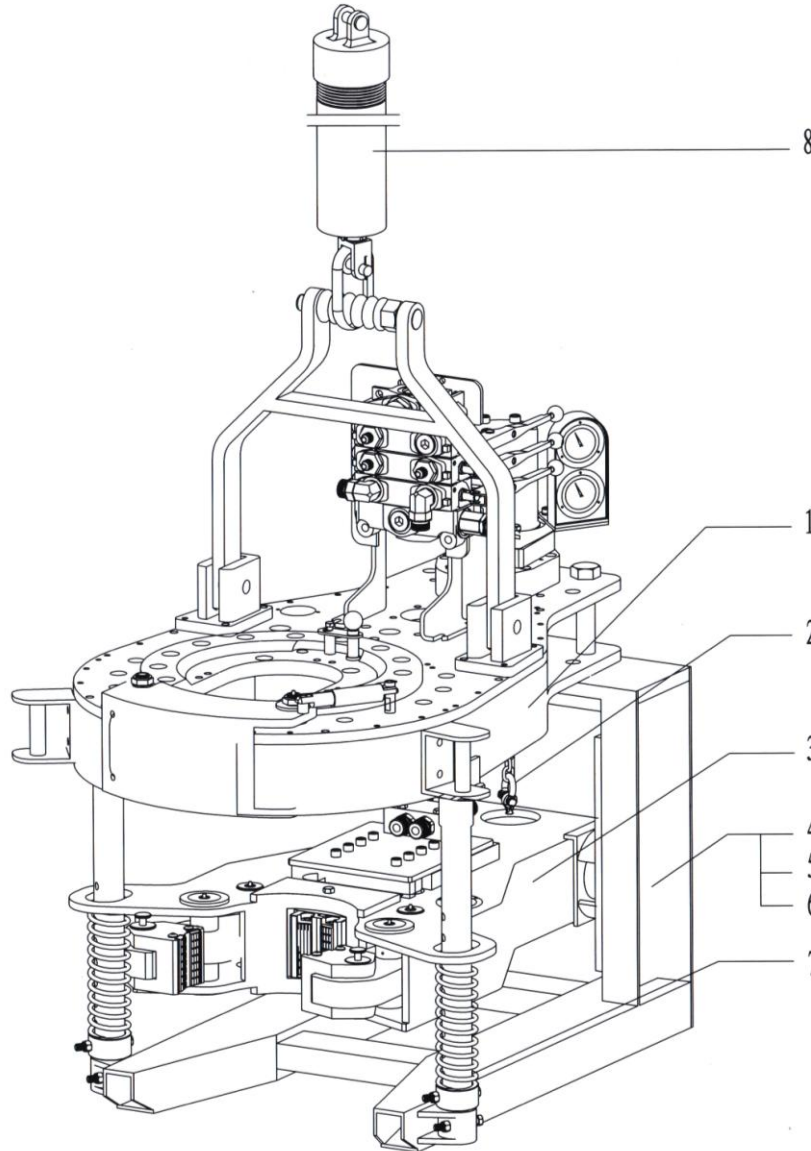

Fig. 1
7.0 KHT8625 General assembly (Fig 1, Table 1)